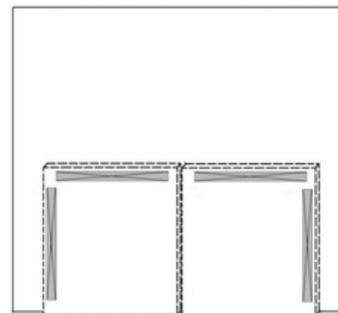

Figure 13
- Fasten a 2 x 2 backer trim approximately 1" lower than the mark of the edge of the panel. A 2 x 2 backer trim will also be installed on both vertical edges of the panel approximately 1" inside the marks made previously. (Figure 13).